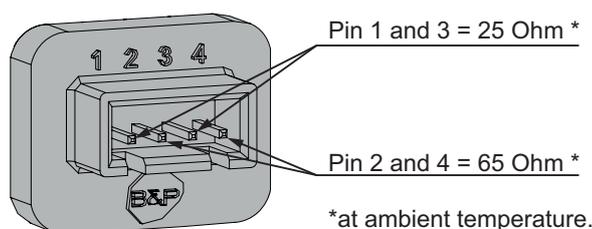

Figure 11.18
- 3 Measure the electrical resistance between the connector pins of the on-off operators as illustrated in Figure 11.18.